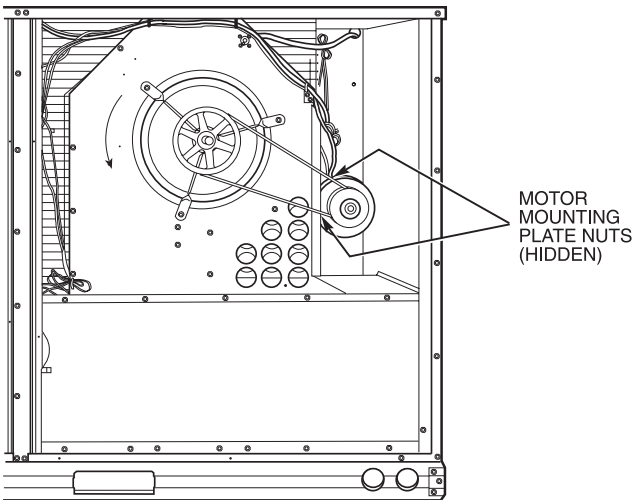

Fig. 41 — Typical Belt-Drive Motor Mounting for Sizes 012,014
3. *Units 012,014* — Slide motor mounting plate downward to tighten belt tension (1/2-in. deflection with 5 to 10 lbs of force). Secure motor mounting plate nuts. See Fig. 41.